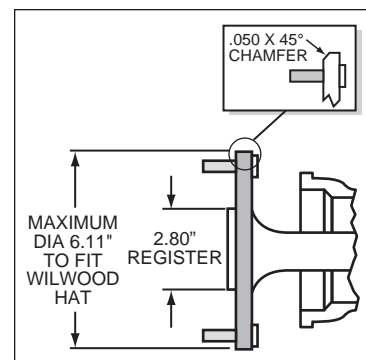

Figure 5. Axle Flange Maximum Dimension
- Axle center register diameter is 2.80", Figure 5. This kit uses Wilwood's removable center register adapters. Rotors can either be centered on the axle register, i.e. *register-centric* or centered on the wheel studs, i.e. *stud-centric*. Due to variations in wheel stud final diameters, *register-centric* centering can be a more accurate method of centering the rotor to the axle. Wilwood offers various diameter adapters for
- Maximum axle flange diameter must be no larger than 6.61" w/.050" x 45° chamfer, Figure 5.